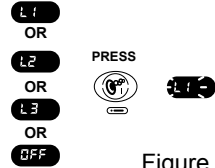

Figure 11
- Once the new setting appears on the display, press the **Jets Pump 1** (⊖) button to confirm your selection (Figure 11). The display of the LED screen will blink twice to indicate that the change has been accepted. You must press the **Jets Pump 1** (⊖) button to confirm your selection or the current settings will remain active.